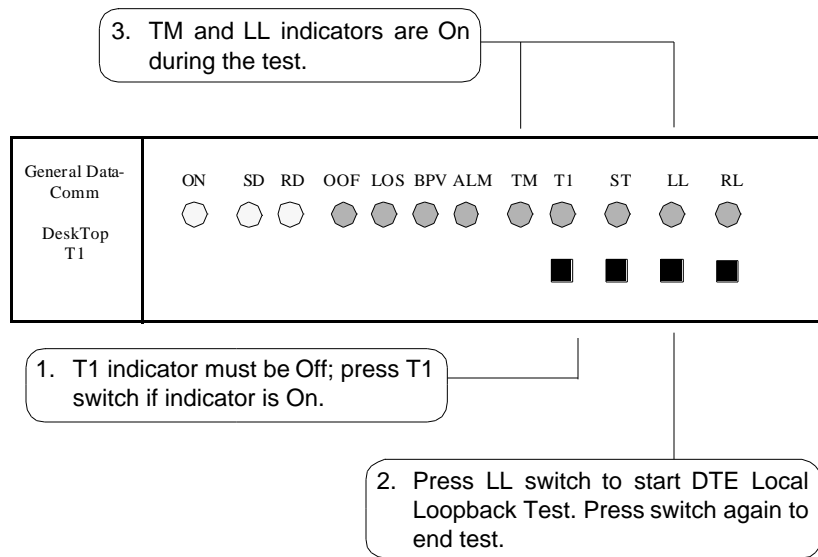

Figure 4-18 DTE Local Loopback, Front Panel Control
- The Network Payload Loopback function is performed as part of the DTE Local Loopback when DSU hardware configuration switch S10-4, LL Switch Mode, is set to Bilateral (Off). *Figure 4-18* shows how to perform the DTE Local Loopback using the front panel switches.
Figure 4-18 shows the switches and indicators that are involved when you command a DTE Local Loopback from the front panel. You can also command the test by means of DTE interface pin L when the DTE Test Leads configuration option is enabled (switch S10-2 On).